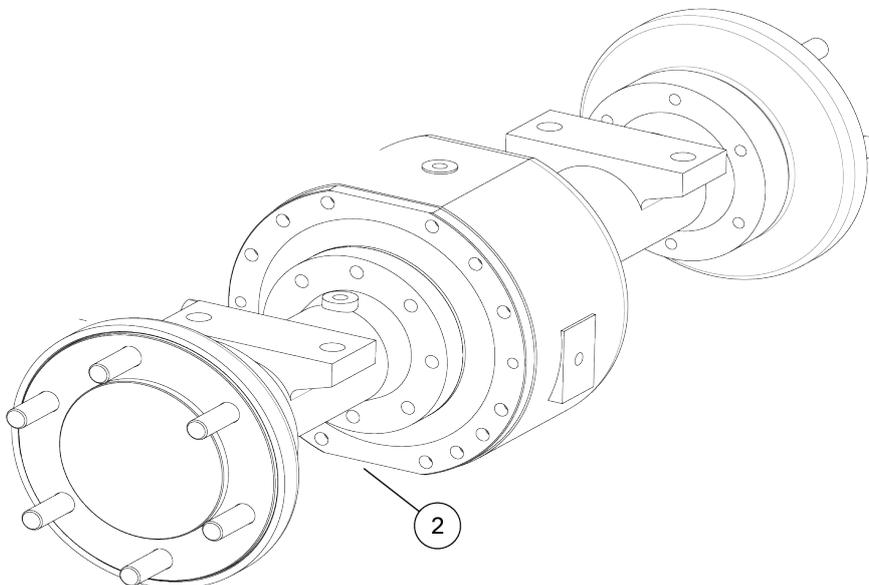

Figure 6-33 Oil plug of axle housing
Step 3: Unscrew the oil plugs (1) and (3), use a container to hold old oil. Tighten the two oil drain plugs finally, as shown in Figure 6-33: